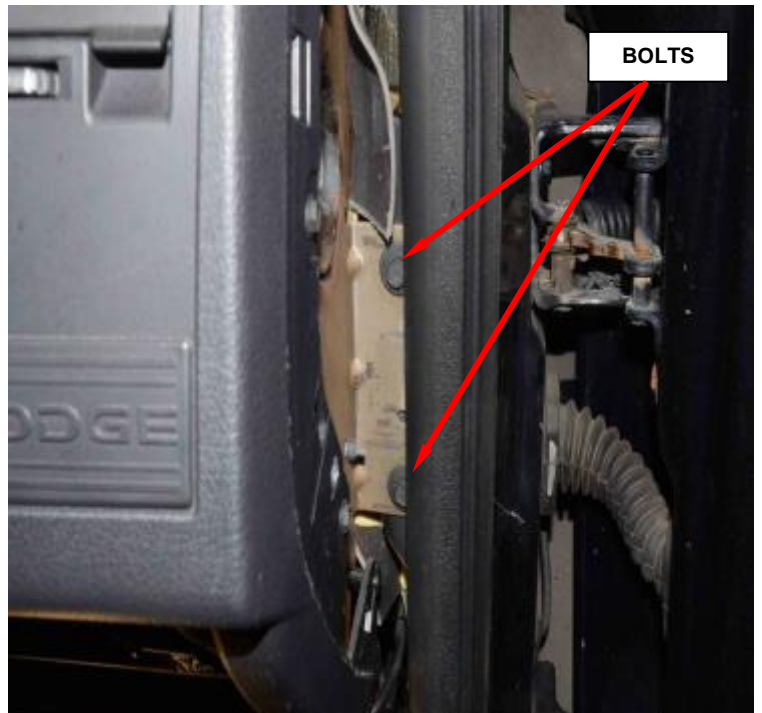

Figure 76 - Right Side Support Bolts
- 32. Remove the right side support bolts and with the help of another person, remove the instrument panel assembly from the vehicle and place on a soft clean surface (Figure 76).